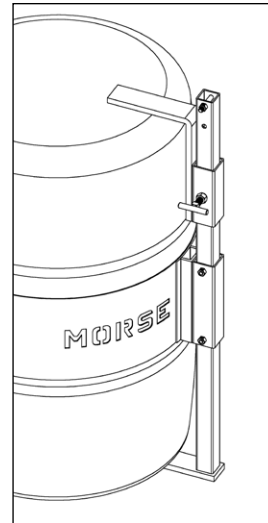

Figure 2.1
- The **Bracket Assembly** (Part # 4556-P) is **required** to handle a plastic drum without a top rim (see figure 2.1). It is also recommended to more securely handle a fiber drum. You can use the Bracket Assembly with a 55-gallon (208 liter) plastic, steel or fiber drum. The brace at top and bottom of the drum prevent it from slipping lengthways through the drum holder. It adjusts for a drum 31" to 37" (79 to 94 cm) tall.